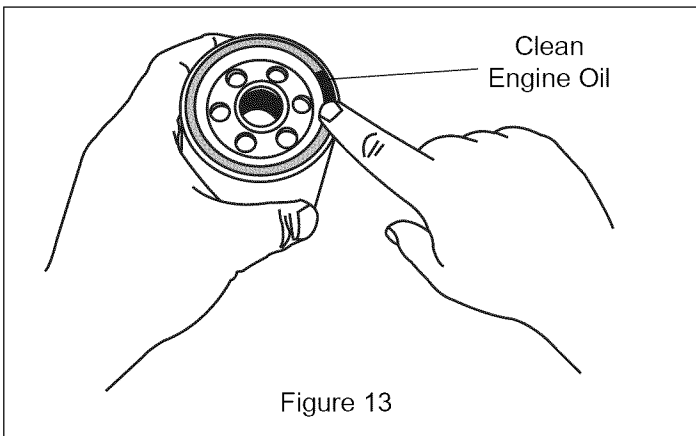

Figure 13
4. Coat a film of clean engine oil on the seal of the new filter, see figure 13.